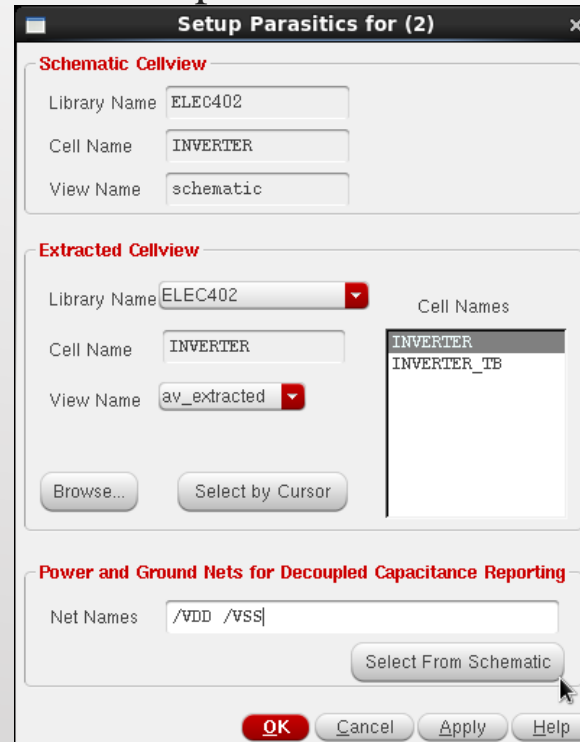

Figure 18 Setup Parasitics
- After extracting the layout note that a new cell view named “av\_extracted” was added in the Library manager. To show the summation of capacitance associated with each node go to the schematic editor window and go to <**Launch -> Plugins -> Parasitics**>. In the Parasitics menu go to Setup. In the “Setup Parasitics” window, make sure that all the fields are set similar to Figure 18 and press OK.